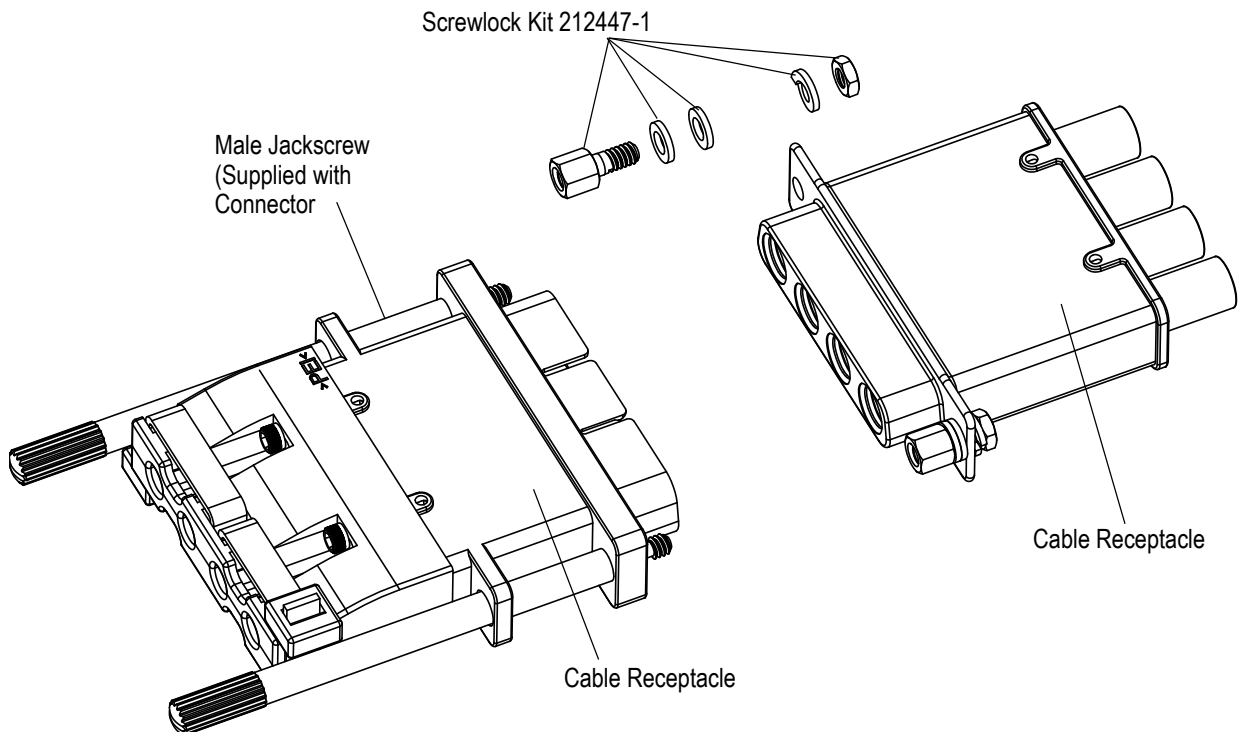

Figure 8
b. **Free Hanging Plug** (Figure 8)
- (1) Install two flat washers on the screwlock and insert the screwlock through the front of the connector flange.
- (2) Secure the assembly with a lockwasher and a nut.